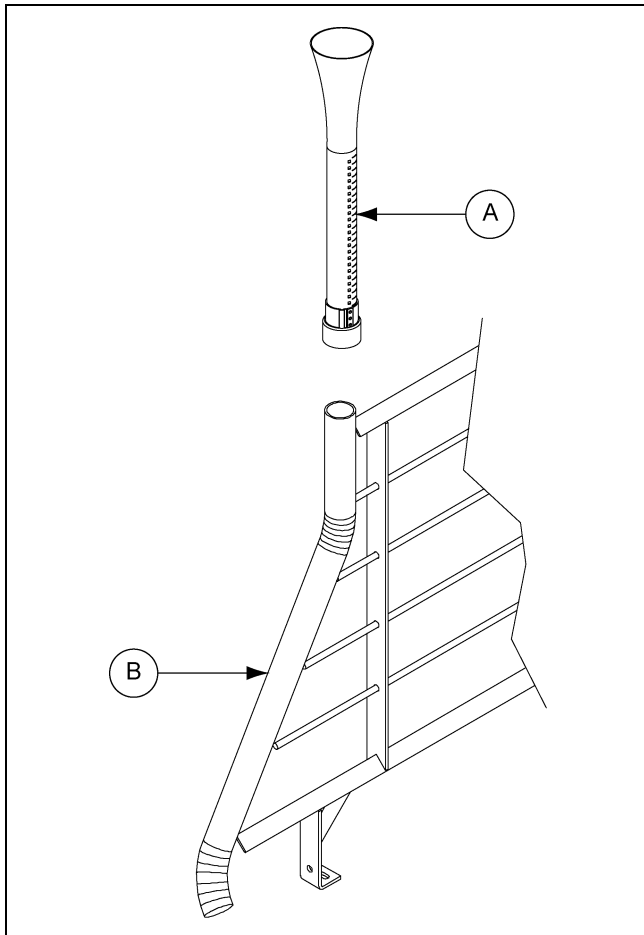

Figure 3A Adjustable Drop Tube Installation
The most common drop tube combination is to use the two-piece adjustable drop tube (AP-0476) (A) attached to a built-in drop tube on the gestation stall. (See Figure 3A.) The adjustable drop tube simply slips over the end of the built-in drop tube (B). There are many other possible combinations that also use one or more of the drop tubes listed in the table of optional equipment.